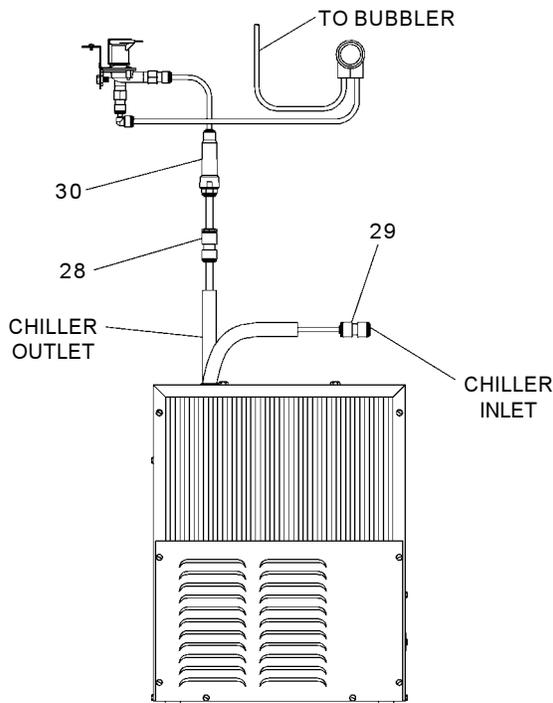

FIG. 6
3. **ENOA MODELS:** Make connection between remote chiller and building supply line. Inlet port is marked on the chiller (1/4" O.D. copper tube). Bend the copper tube (provided) at an appropriate length from chiller to opening in frame. Install a 1/4" x 3/8" union (provided) on the marked chiller inlet port. Connect building supply line to union. (See Figure 6)
5. **Install** the fountain. Remove access cover plate on underside of fountains and save the screws. Mount the fountain to the upper panel and the wall frame with (4) 5/16" x 1 3/4" (44mm) long bolts and nuts (provided). Install spacers on bottom two bolts. Tighten securely.
7. **ENOA MODELS:** Make connections between remote chiller outlet tube and fountain strainer. Outlet port is marked on the chiller (3/8" O.D. copper tube). Install a 3/8" x 3/8" union (provided) on the marked chiller outlet port. Insert the 3/8" unplated copper water line (provided) into the union and the inlet side of the strainer by pushing it in until it reaches a positive stop, approximately 3/4" (19mm). Connect 1/4" copper tubing coming from fountain to the strainer. Turn on water supply and check for leaks. **DO NOT SOLDER TUBES INSERTED INTO THE STRAINER AS DAMAGE TO THE O-RINGS MAY RESULT.** (See Figure 6).
11. **Mount** lower panel. Loosen the (2) #10-24 x 5/8" (16mm) screws at frame bottom lip. Slide upper tongue of lower panel under lower edge of already installed upper panel. Tighten previously loosened screws securely.